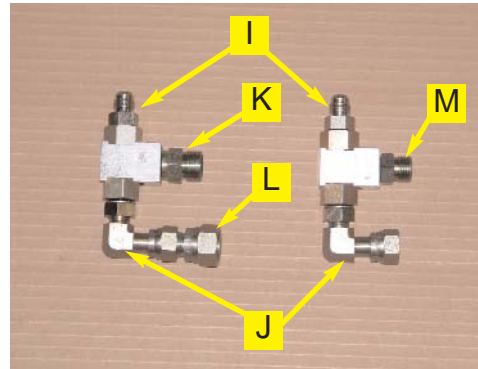

Figure 5a. Assembled load shuttles.
- a. Preassemble the load shuttles (**H**) with adapter fittings (**I**), (**J**), (**K**), (**L**), and (**M**) as shown. (Figure 5a.)